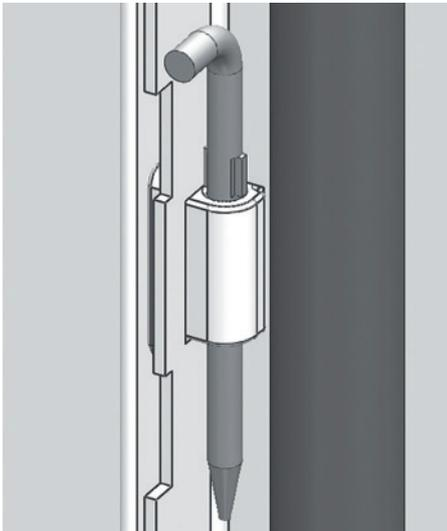

Fig.3.1:Correct position
- Check that all bolts from the door hinge are positioned as shwon in Fig.3.1